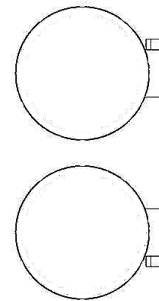

FIGURE 4
12. Unscrew all supplied hose clamps and feed the tail end of the clamp through the clips on the inside of the heatshields; the larger clamps go to the rear of the heatshields where they will rest on the muffler bodies, smaller ones to the front for the headpipes. The screw end of the hose clamp should be accessible for tightening but not visible when heatshields are mounted to the pipes, see Figure 4.